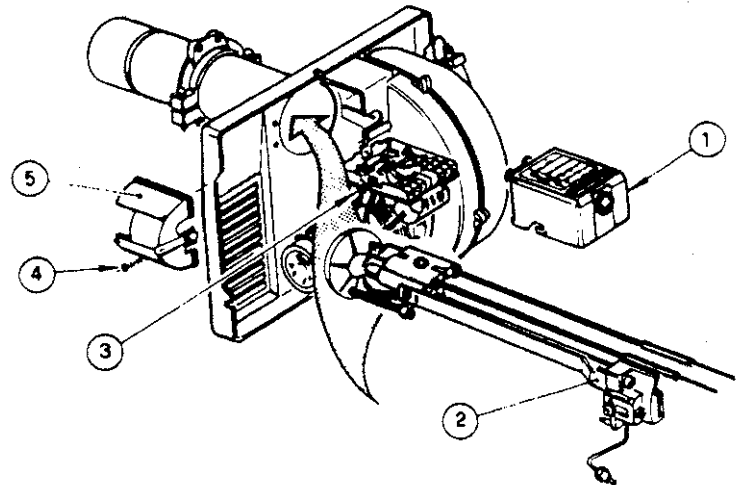

Figure 24: Installation/Removal of Drawer Assembly
2. Installation/Removal of Drawer Assembly, Refer to Figure 24.